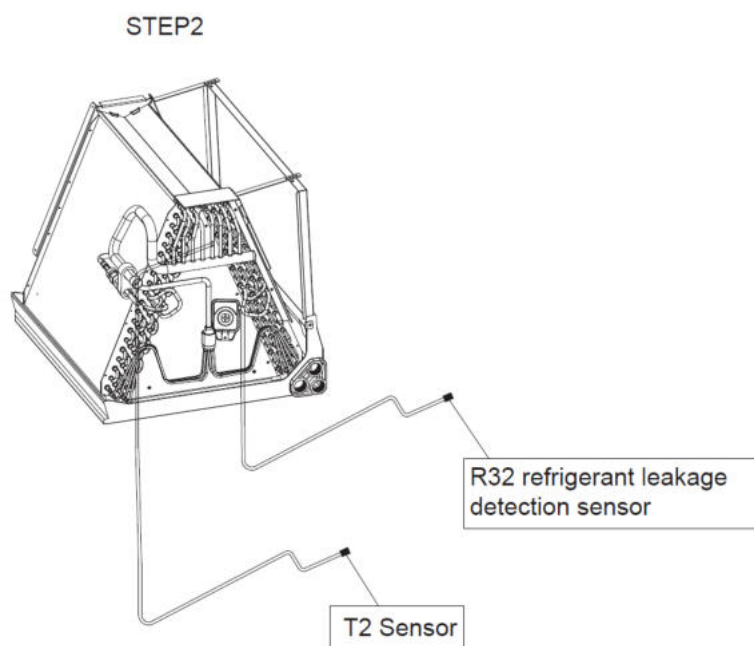

Figure 4.2
2. Pull out the coil with sensor wire (do not disconnect T2 sensor and leak detection sensor from the coil). (Figure 4.2, Step 2)